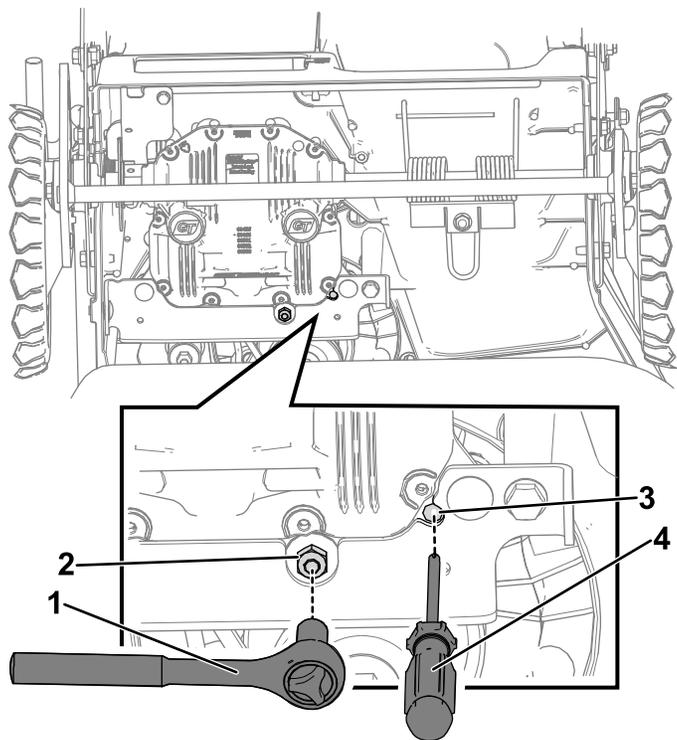

**Figure 48**
9. Remove the trailing shield by removing the 2 bolts holding it in place (Figure 48).